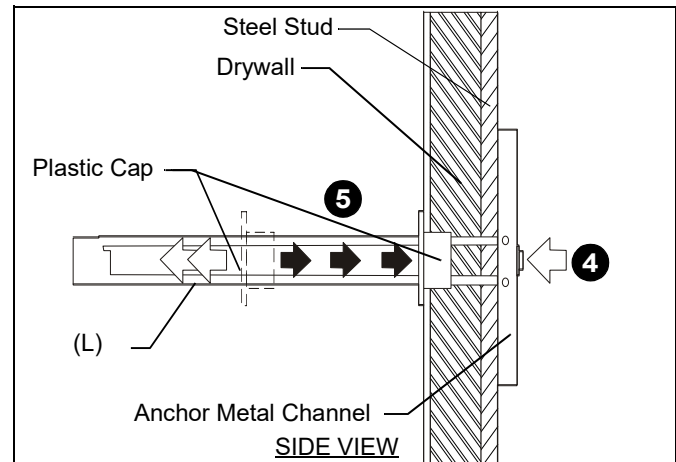

Figure 12
4. Holding plastic straps on anchor (P), pull anchor away from wall until channel rests flush behind wall making sure anchor channel is positioned vertically on stud. (See Figure 12)
5. Slide plastic cap on anchor (P) towards wall until flange of cap is flush with wall. (See Figure 12)